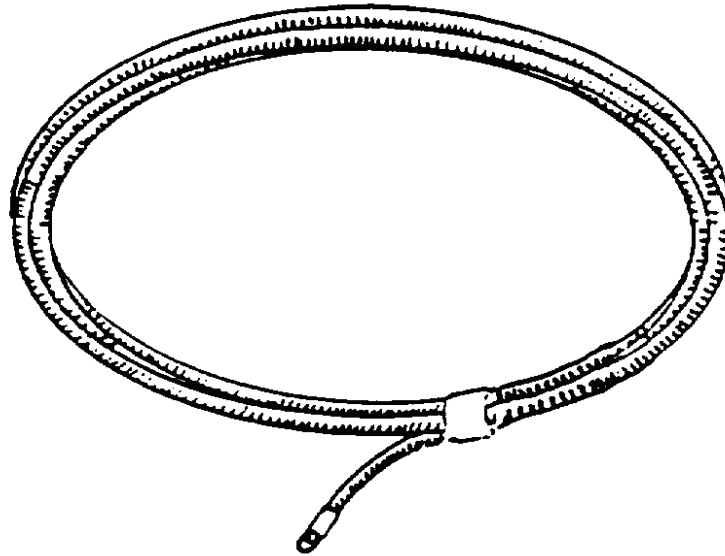

Figure 6-8. Umbilical tubing stringer.
h. **Umbilical Tubing Stringer.** This tool provides an easy way to string new or additional tubing into an existing umbilical assembly. Refer to figure 6-8.